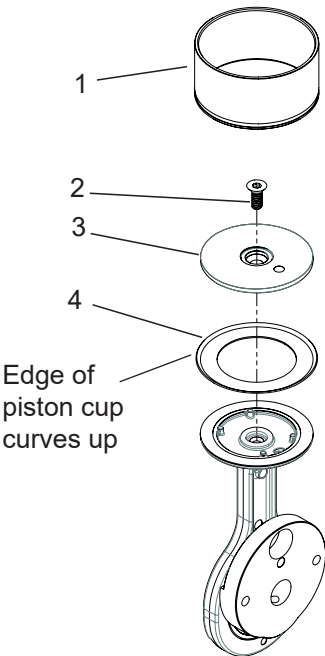

Figure 6A- Pressure Rod
Note: Before cup removal, check direction of piston cup edge for proper reassembling (Does it curve up or down?), See Figures 6A & 6B on Page 4.
STEP 16. Follow this step if eccentric has the built on Spacer. See figure 6A. Slide connecting rod assembly onto the shaft until the spacer meets the shaft bearing.